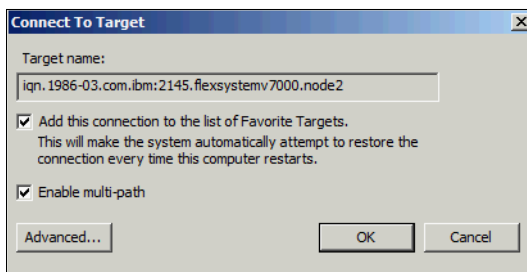

Figure 12-19 Connect to a target
7. Highlight the inactive port and click **Connect**. The Connect to Target window opens (Figure 12-19).